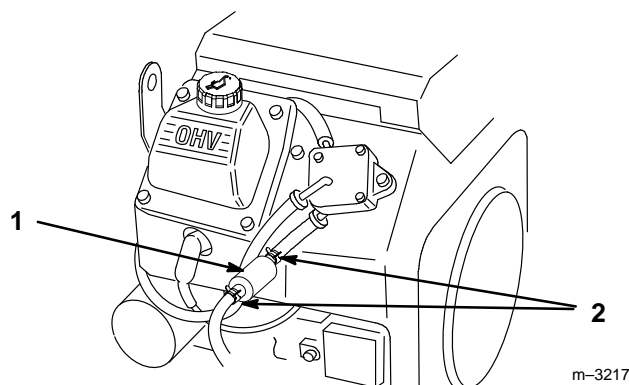

Figure 25
3. Squeeze the ends of the hose clamps together and slide them away from the filter (Fig. 25).